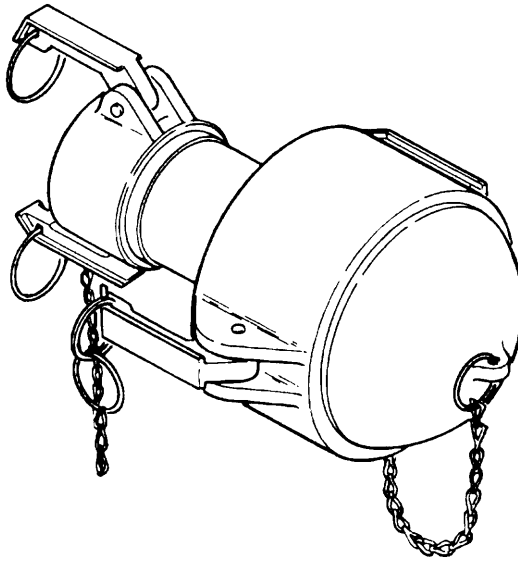

Figure 1-22. Adapter Assembly.
**1-27. ADAPTER ASSEMBLY, 4 IN. FEMALE BY 2 IN. MALE.** (Refer to Figure 1-22.)